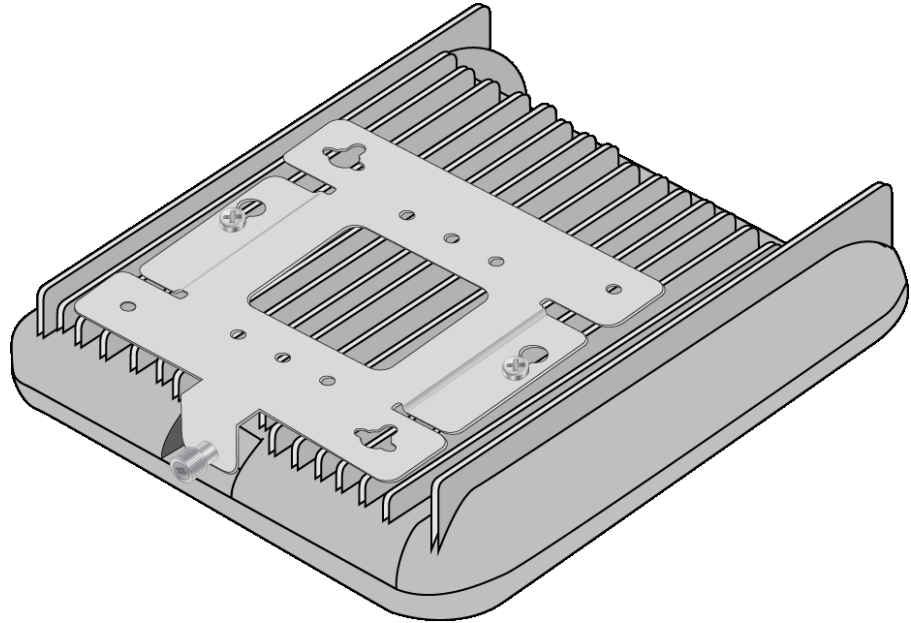

Figure 12. Installing the Mounting Bracket
3. Slide the mounting bracket beneath the screws. Refer to Figure 12 on page 46.